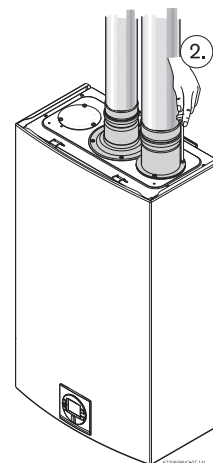

Fig. 17 Inlet connection
- Attach the combustion air inlet accessory to the top of the unit Fig. 17 (position 2) using the 3 screws and gasket provided, and install 3" air intake pipe over the accessory.